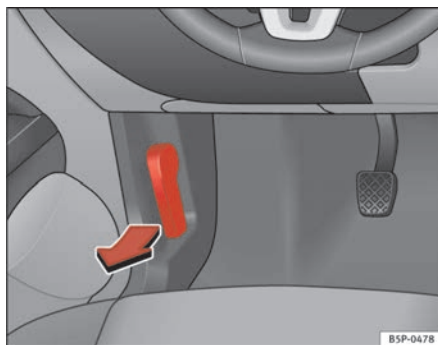

Fig. 154 Detail of footwell area on driver's side: lever for unlocking the bonnet.
- To release the bonnet, pull the lever under the dashboard ⇒ fig. 154 in the direction indicated (arrow). The bonnet will be released by a spring action ⇒ ⚠.